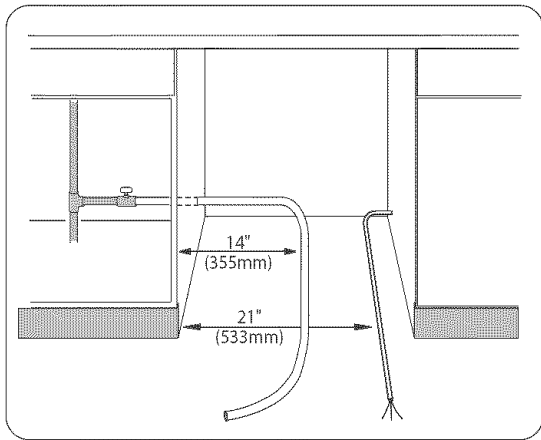

Figure 18
- 1) Straighten and position the hot water supply line and the electrical supply cable as shown in Figure 18 so that they will align with their channels under the dishwasher base.